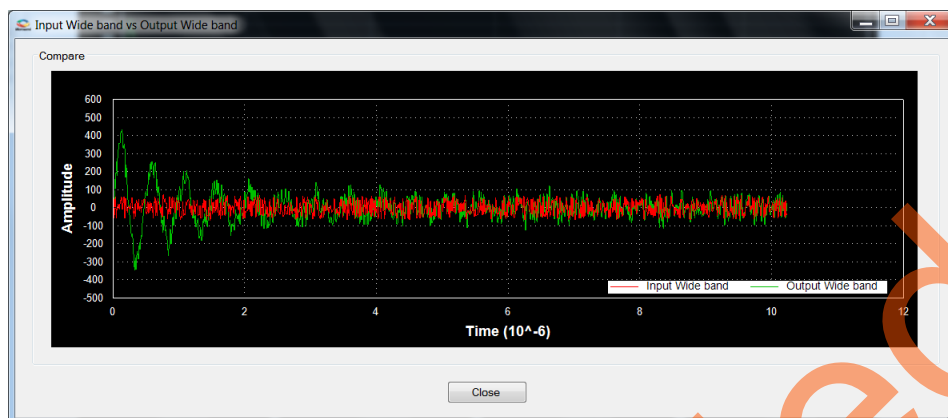

Figure 23 • Comparison of Input Wide Band and Output Wide Band
8. A window displaying the comparison between the Input wide band and Output wide band is displayed, refer to Figure 23.